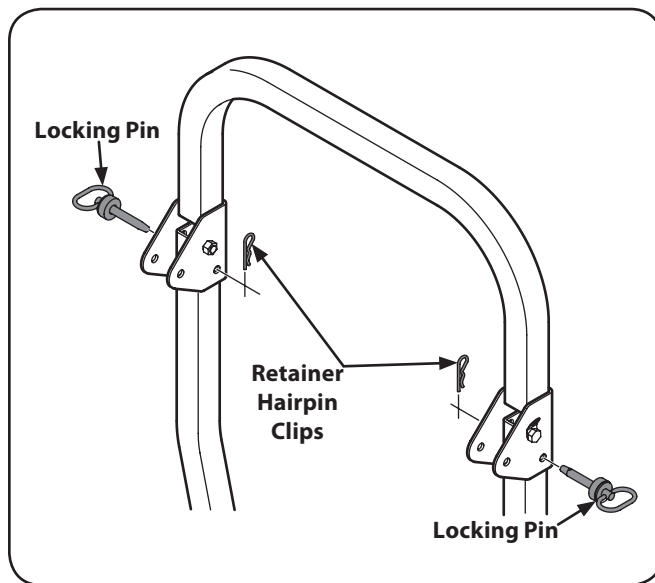

Figure 3-6
8. Move the upper ROPS section to the upright position, and insert the locking pins with their retainer hairpin clips. See Fig. 3-6.